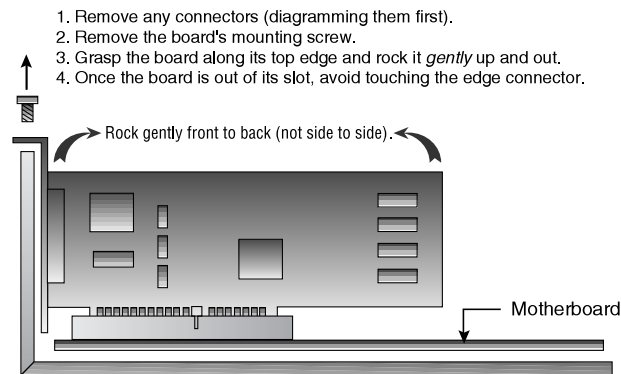

Figure 7-3: Removing the expansion card
6. If any of the expansion cards are obstructing your access to the hard drive, you will need to remove them. Disconnect the wires and cables that are connected to the expansion card, remove the mounting screw, grasp the expansion card with both hands, and pull upward while gently rocking the board from front to back (Figure 7-3). **Note:** As soon as the expansion card is out, place it on an antistatic mat to protect against ESD.